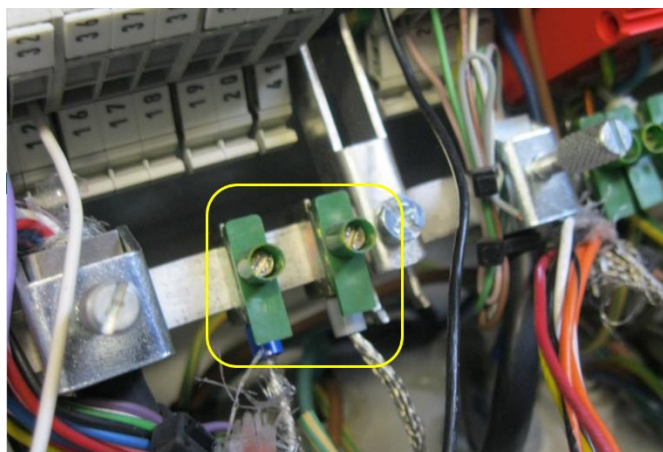

Figure 7 | Cable shields connected to ground bar
3. Connect cable shields to the clamps on the ground bar (Figure 7).